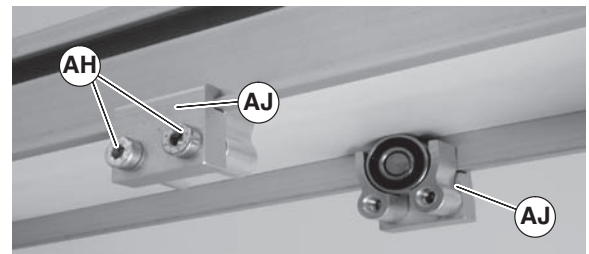

Figure 14
3. Install roller assemblies (Figure 14, item AJ) as shown. Tighten screws (AH) to 60 in-lb (7 Nm).